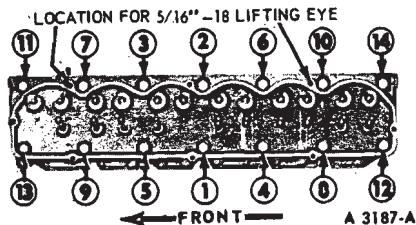

FIG. 11—Cylinder Head Torque Sequence
12. Remove the cylinder head bolts. Install the cylinder head lifting eyes in the locations shown in Fig. 11. Attach a hoist and lifting sling to the lifting eyes, and lift the cylinder head and intake and exhaust manifolds assembly off the engine. Do not pry between the head and block as the gasket surfaces may become damaged.
4. Install lifting eyes on the cylinder head in the locations shown in Fig. 11, and use a hoist and lifting sling to lift the cylinder head over the cylinder block. Lower it carefully until it is properly positioned on the block and dowel pins. Remove the hoist and lifting eyes.
6. The cylinder head bolts are tightened in three progressive steps. Follow the sequence shown in Fig. 11. Torque the bolts to 50-55 ft-lbs, then to 60-65 ft-lbs. Finally, torque the bolts to specifications. When cylinder head bolts have been tightened following this procedure, it is not necessary to retorque the bolts after extended operation. However, the bolts may be checked and retorqued, if desired.